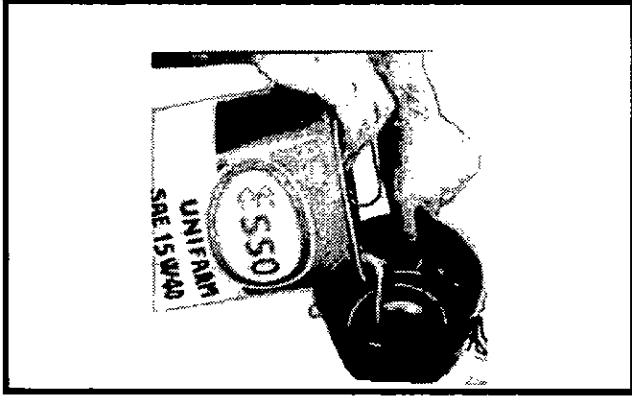

Figure 5-10 Refill the Oil Bath Cup
7. Refill the oil bath cup with clean engine oil to the level mark on the inside surface of the cup, (Figure 5-10).